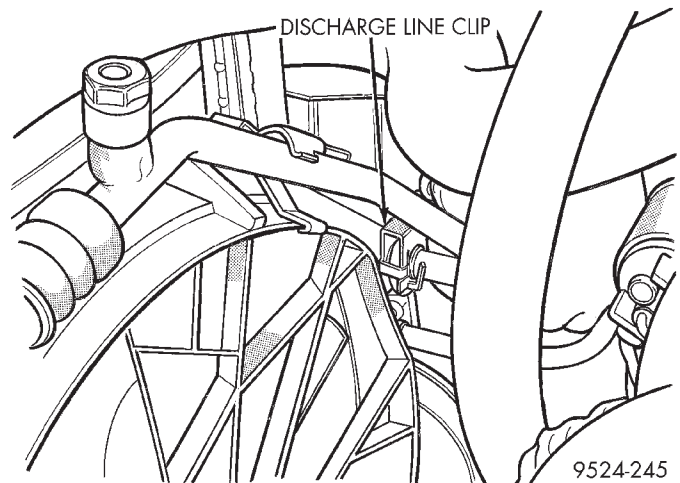
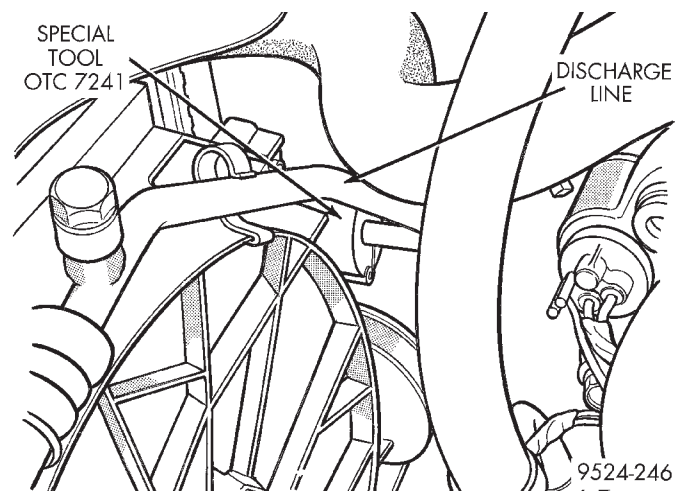

Fig. 32 Quick Connect Clip
Fig. 33 Special Tool For Line At Condenser
- (1) Remove refrigerant from the A/C system using a refrigerant recovery machine.
- (2) Disconnect A/C pressure transducer wire harness.
- (3) Remove quick connect clip and disconnect quick connect at condenser using Special Tool kit 7193 (Fig. 32) and (Fig. 33).